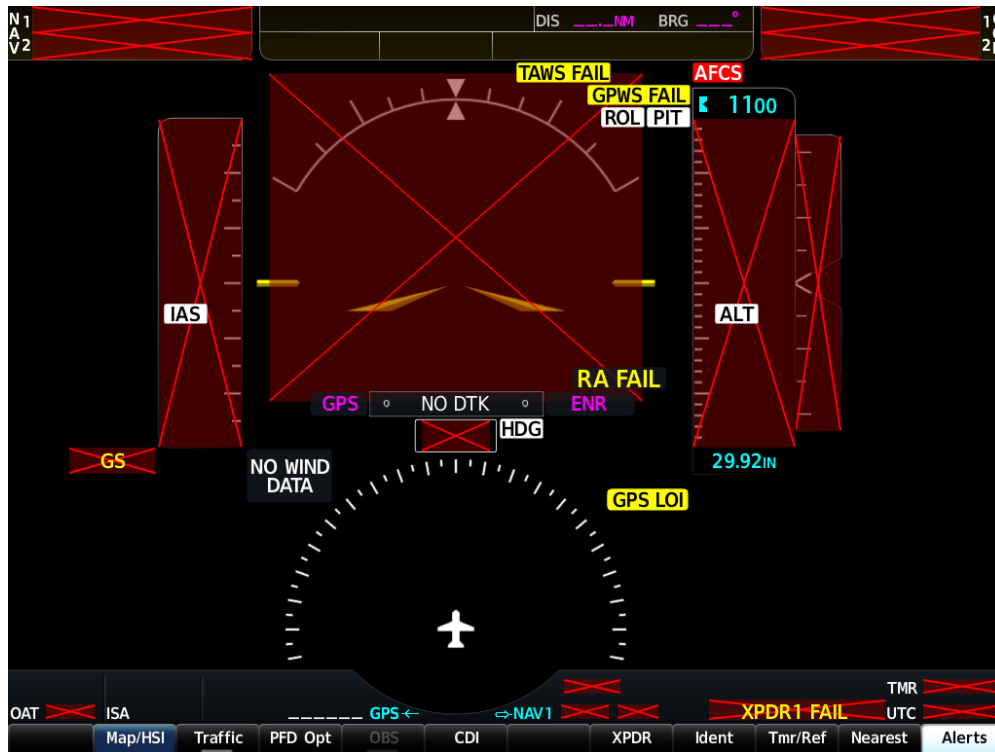

Figure 9-2, PFD Power-up System Annunciations
4. Allow the displays to initialize for approximately one minute. During normal operation, this causes the airspeed, altitude, vertical speed, and OAT fields to be invalid during the first ~40-60 seconds of PFD power-up. After two minutes, verify no Red-X's are present on both PFDs and the MFD. Examples of potential Red-Xs are shown in Figure 9-2. If any Red-X's are present, stop and troubleshoot per Section 5. Examples of PFDs with no Red-X failure indications are shown in Figure 9-3.